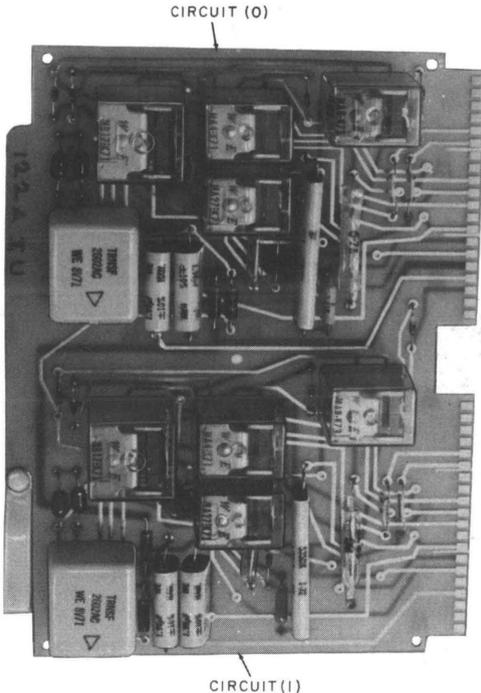

Fig. 19—122A Interconnecting Unit
**2.19 122A Interconnecting Unit**—An 8-inch circuit pack used to provide access to a CO line for customer-provided call restriction equipment to detect off-hook, on-hook, and dialing signals on the line for outgoing calls. Transfers the originating station for the CO line to the CPE when signaled by the CPE. Permits the CPE to provide a restricted tone to the originating station. Detects CO ringing when circuit is in the call restricted mode. Forces cut-through of the station to the CO line on an incoming call when the station is in the call restricted mode. (See Fig. 19.)